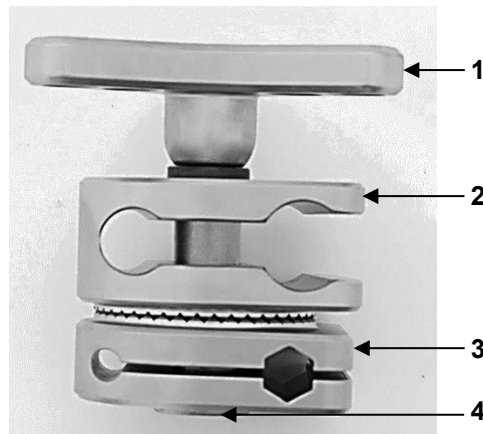

Fig. 9: Cross connector EEN-1
Figure 9 depicts the cross connector EEN-1. This consists of a star grip (1), an upper (2) and a lower (3) clamping piece and a threaded rod (4). The cross connector is to be assembled as follows prior to application.